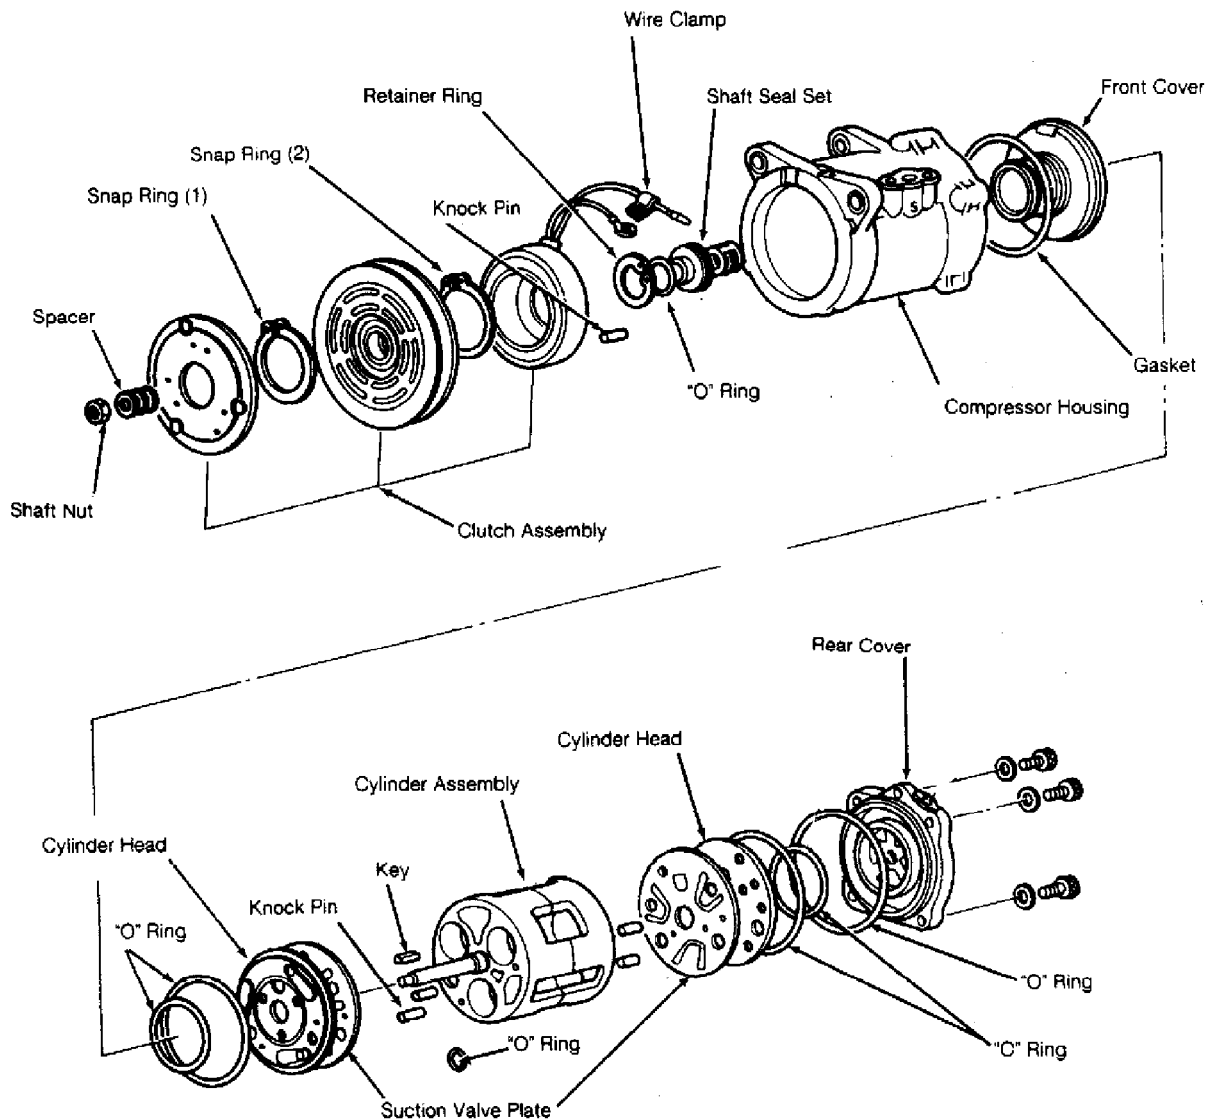

Fig. 7: Hitachi 6-Cylinder Compressor
3) Remove clamping screws that secure coil assembly leads. Remove inner snap ring from coil assembly. Remove coil assembly from front cover. See Fig. 7.